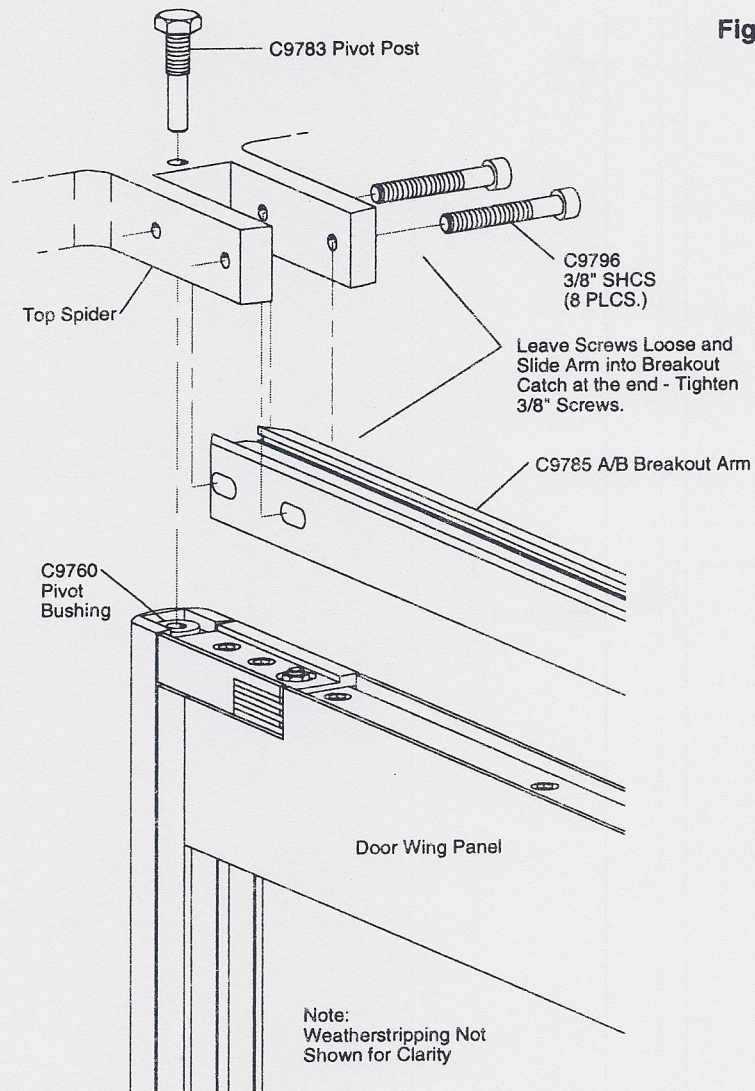

Figure 13 - Installing 4-Wing Bookfold Door Panel
1. Attach C9785 Breakout Arm to Top Spider using (2 ea.) C9796 3/8" SHCS provided (Figure 13 on G917.12).
2. Place bottom C9760 Pivot Bushing (located on underside of door panel) on C9784 Bottom Pivot Post which has been preinstalled at the factory (Figure 13). Grease Bottom Pivot before panel installation.
3. Install C9783 Pivot Post through Top Spider and into top C9760 Pivot Bushing (Located on top side of door panel). This should hold door panel in position and also allow door panel to swing on pivots. Engage the arm into the catch at the end and tighten the screws (Figure 13).